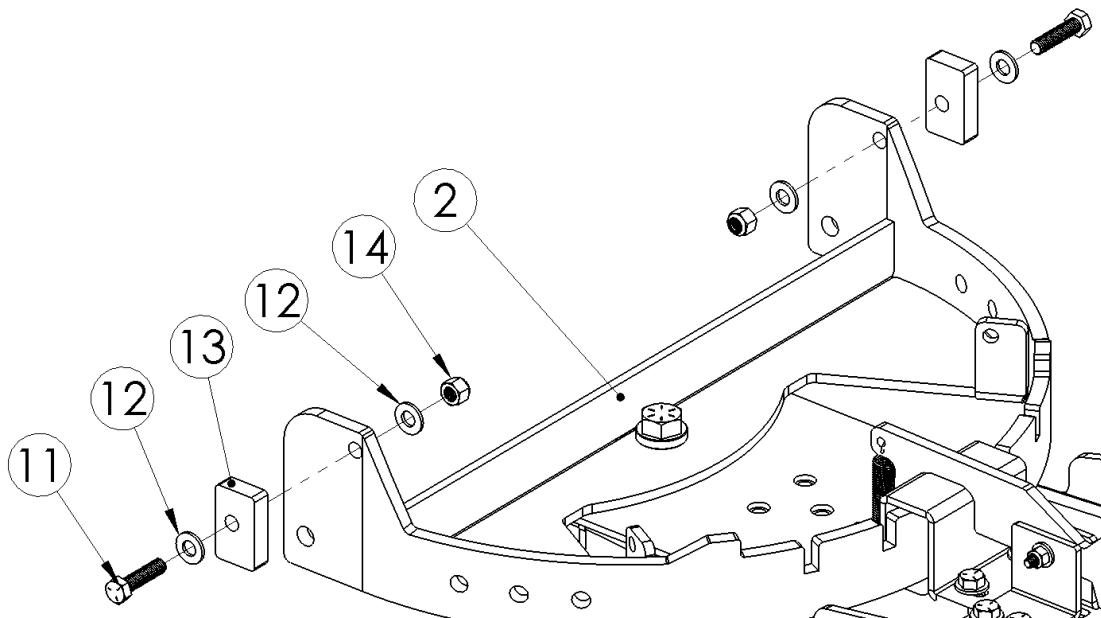

Figure 6
- 6) Install the Stop Blocks using the 3/8" x 1.5" Hex Bolts, 3/8" Flat Washers, and 3/8" Nylock Nuts. Note that the hole in the Stop Block is a different distance from each of the four edges of the Stop Block. By adjusting which of the four faces is pointed forward the plow blades resting position can be changed. Begin with the shortest distance facing forward and adjust if necessary. See **Figure 6**.